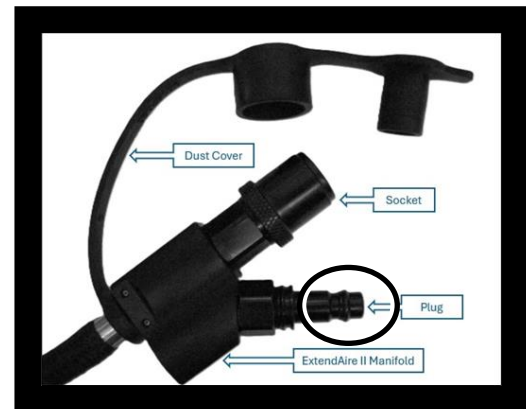

Figure 5: ExtendAire II manifold
1. **Locate the Plug** on the ExtendAire II manifold. (Figure 5)